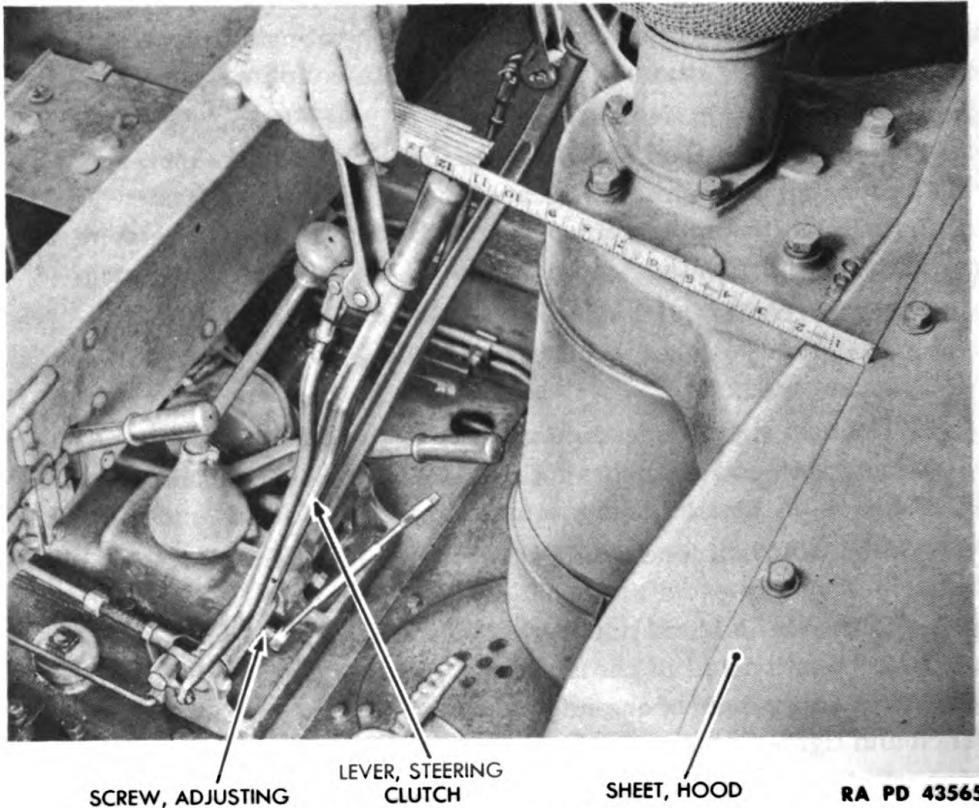

Figure 111 — Steering Clutch Lever Adjustment
(1) ADJUSTMENT OF STEERING CLUTCH LEVER POSITION (fig. 111).